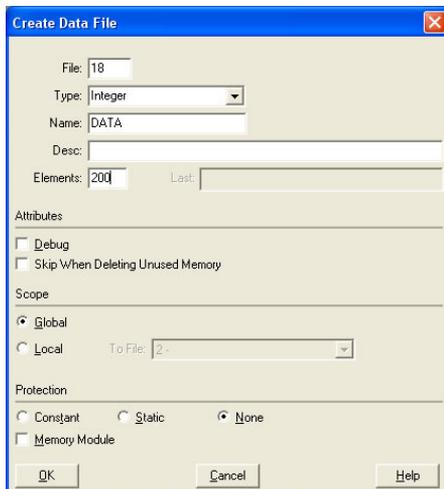

Figure 113: Creating a Data File
c) Follow the same procedure to create a data file. This file will be used to store the incoming data read from the interface card. Enter a file number (e.g. 18), set the type to "Integer", enter a descriptive name (e.g. "DATA"), and enter a number of elements (e.g. 200). Refer to Figure 113. Click OK to create the file.